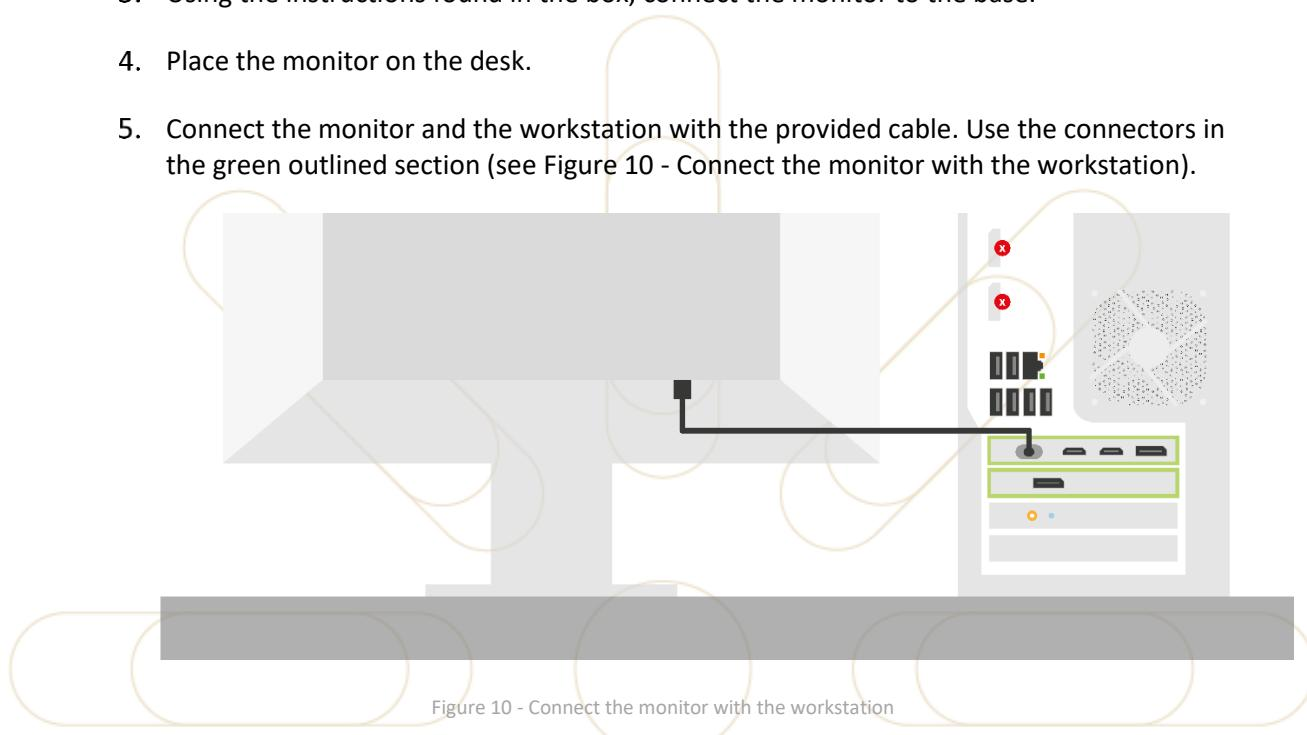

Figure 10 - Connect the monitor with the workstation
5. Connect the monitor and the workstation with the provided cable. Use the connectors in the green outlined section (see Figure 10 - Connect the monitor with the workstation).